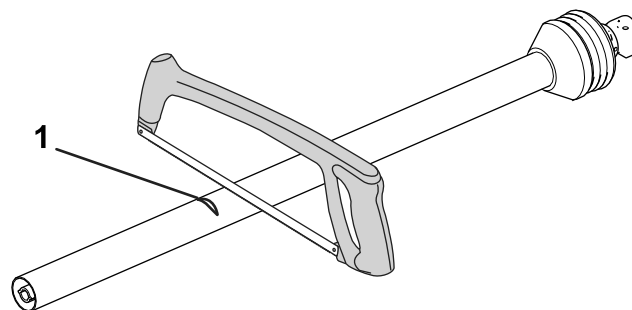

Figure 12
7. Remove and cut each section at the mark (Figure 12).